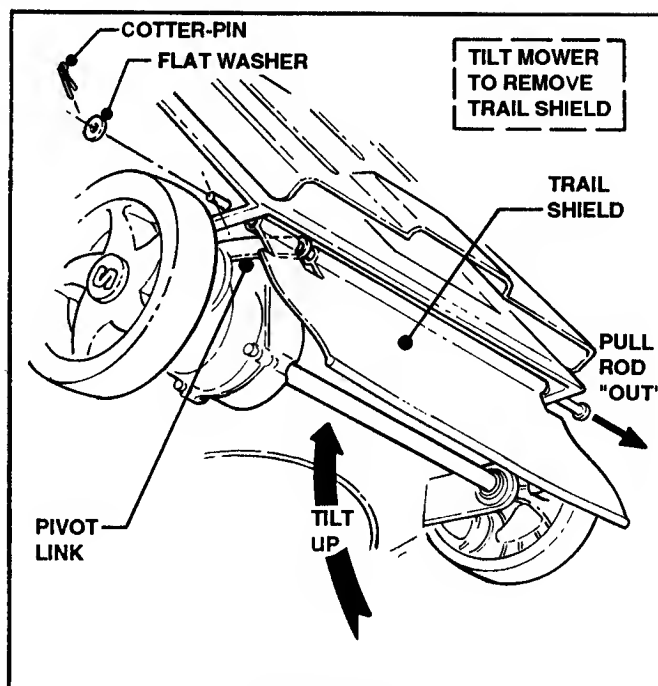

FIGURE 5.1
2. Remove Trail Shield to free Pivot Link. See Figure 5.1.